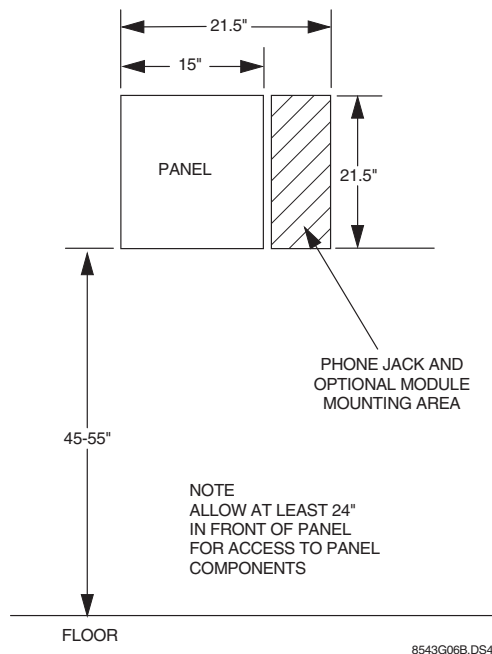

Figure 2. Determining Panel Location
- ☐ Mount the panel at a comfortable working height (about 45 to 55 inches from the floor to the bottom of the panel, as shown in Figure 2).